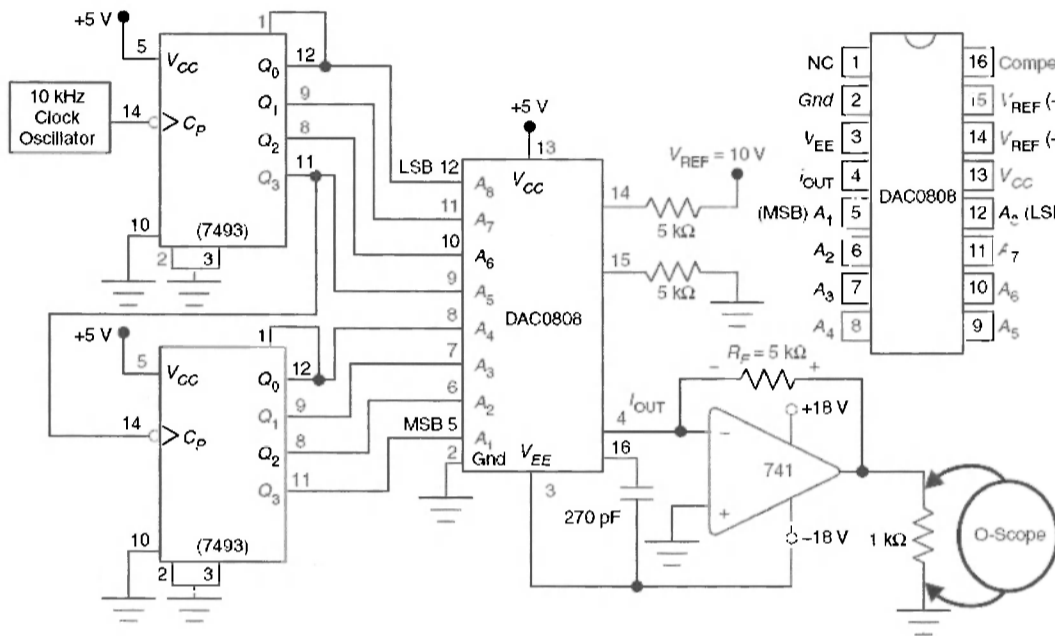

Figure Q2
**Q2** D/A converters are available in IC form. One popular type, shown in Figure Q2, is the 8-bit DAC0808. An inverting op amp is externally connected to the D/A IC package. The maximum current level of 2 mA at the output of the op amp is dictated by the 10 volt supply and 5 K $\Omega$  resistor connected to pin 14. When the digital input is 0000 0000, the minimum current of 0 mA flows through pin 4. When the digital input is 1111 1111, the maximum current of 2 mA flows through pin 4. Using a 5 K $\Omega$  feedback resistor ( $R_F$ ), the analog output voltage at the op amp output is on the range of 0 volts to 10 volts. If a different voltage range is desired, the  $V_{REF}$  voltage applied to pin 14 can be changed, the resistor at pin 14 can be changed, or the  $R_F$  resistor value can be used to change the gain.